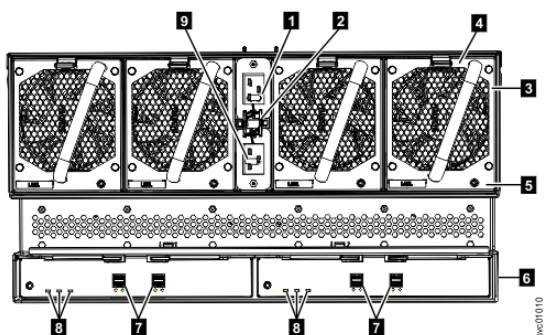
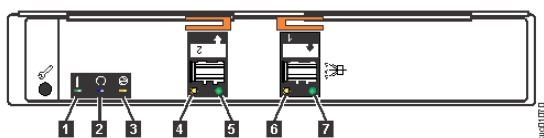

Figure 158. LEDs on the back of the expansion enclosure
Figure 159. LEDs on the back of the expansion canister
Table 63 on page 202 explains the function and status that is indicated by each of the LEDs. The power cords for each PSU are accessible from the rear of the expansion enclosure (1), as shown in Figure 158 on page 204.
Figure 158 on page 204 shows the rear view of a expansion enclosure. LEDs on the rear of the enclosure provide information about each fan module, each expansion canister, and SAS links.
The expansion enclosure has four fans. Each fan has one LED; for example, Figure 158 on page 204 shows the location of the LED (5) for fan number four. When a fan is operating normally, the LED is not lit. If a fault is detected, the amber LED is lit.
As Figure 158 on page 204 also shows, the expansion enclosure contains two expansion canisters. Each expansion canister contains its own set of LEDs, as shown in Figure 159 on page 204. The LEDs provide status information about the expansion canister itself and the SAS connections.